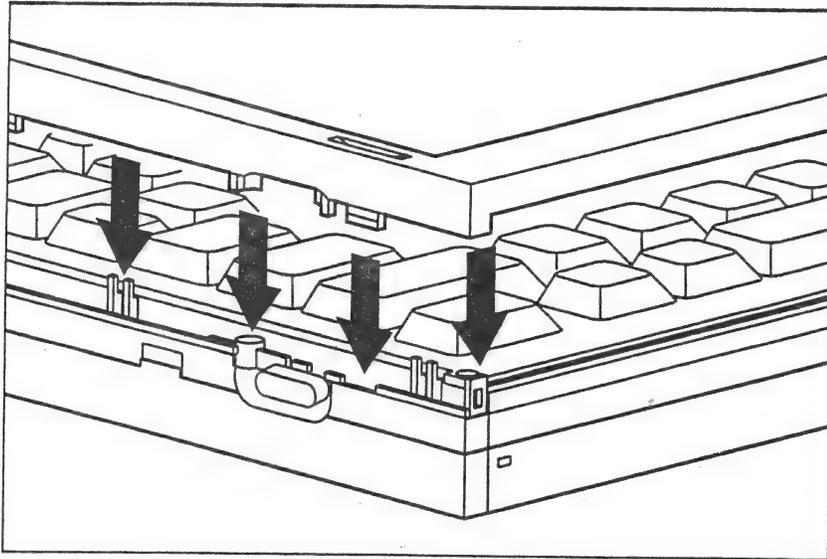

Figure 2-9. Replacing the System Unit Cover
2. Position the battery latch actuator (Figure 2-9).
3. Engage the cover's front snaps to the base (Figure 2-9).
4. Snap the system unit cover into place (Figure 2-9). (Replace the option bezel by inserting it with arrows pointing up. The arrows are located on the inside of the option bezel.)